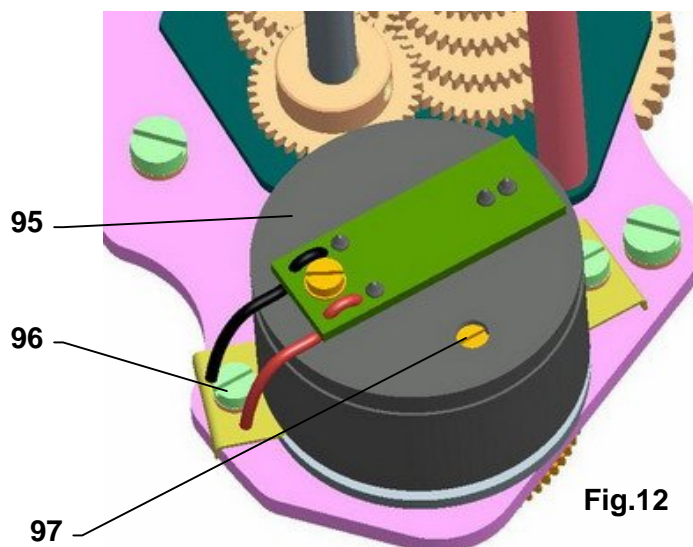

Fig.12
4.7 Adjustment of Capacitive Transmitter CPT1/A (Fig.12)
The trimmer (97)(Fig. 12)) can be used to adjust the output signal of the capacitive transmitter to any value of operating revolutions in range from ca 50% up to 100% of the max. value of the operating revolutions on the competent degree according to table 3.